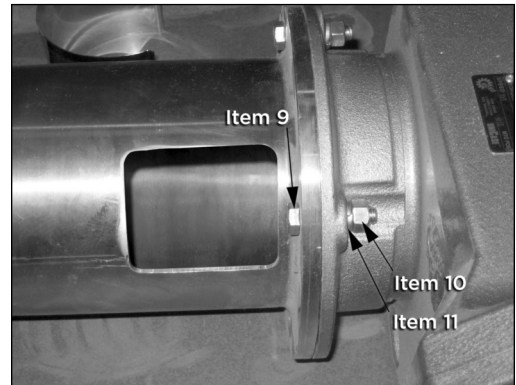

Figure 2
3. To mount the gearmotor to the housing, insert a cap screw (item 9) into one of the four holes on the flange with the cap end facing away from the gearmotor. Slide the lock washer (item 11) onto the end of the cap screw, and then screw the hex nut (item 10) onto the end over it. Repeat for the other three holes. See Figure 2.